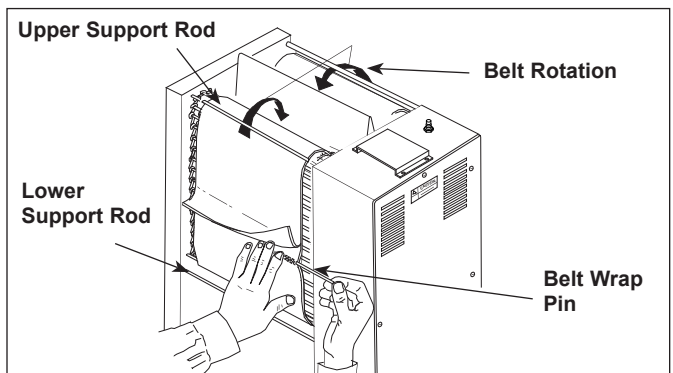

Figure 8. Installing Belt Wrap
6. Install the new Belt Wraps around the Conveyor Belt Chains inside the Support Rods with the zipper flap exposed and hanging down (Figures 8 & 9).